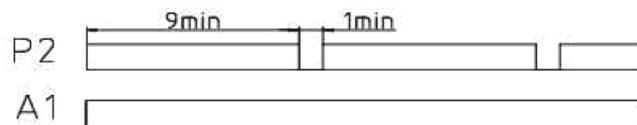

Figure 1, In normal water-level , Vacuum pump run 9min and stop 1min
Vacuum pump is a centrifugal pump with stronger ability of suction, but it is better to keep some water in the pipes to avoid the problem for restarting. It can create a certain difference pressure and make the water permeate the membrane. If the membrane is blocked for pollution and not suction smoothly, the discharge capacity will come down, and cause the equipment to alarm at high level. Perform the "open 9min and stop 1min" procedure of Figure 1, it can prolong the service life of membrane.
6.2.9 When the tank level is up to the M2 position, the vacuum pump will start and operate a 10 minute cycle, on 9min and off 1min. The air pump is run continuously during the 1min stop time of vacuum pump to enable to a self-cleaning for the membrane threads. Please refer to Figure 1. Thus, the plant enters into normal operation status.